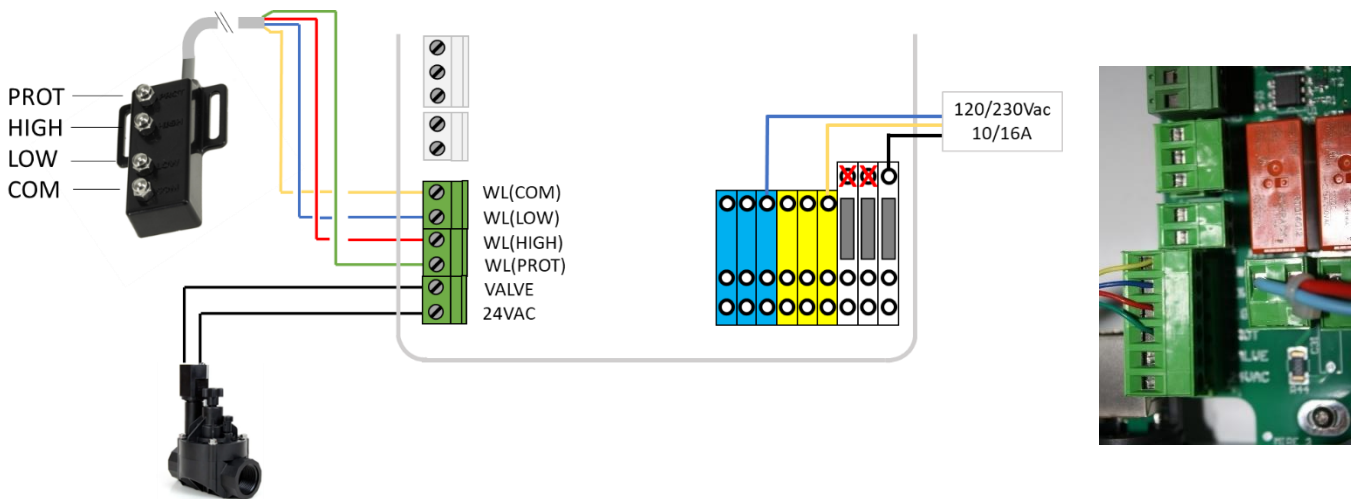

Figure 56 - Connecting Water Level
- Connect the 4 cores to the connector on J20 (see Figure 56 - Connecting Water Level).
- Connect the 2-core wire from the valve solenoid to the connector on J20 marked (VALVE) according to Figure 56 - Connecting Water Level. Polarity is not important.